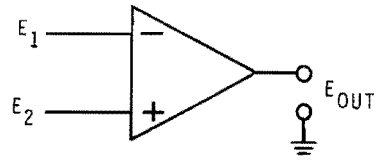

Figure 3-86
9. Refer to Figure 3-86. Which of the following statements about this circuit is true?